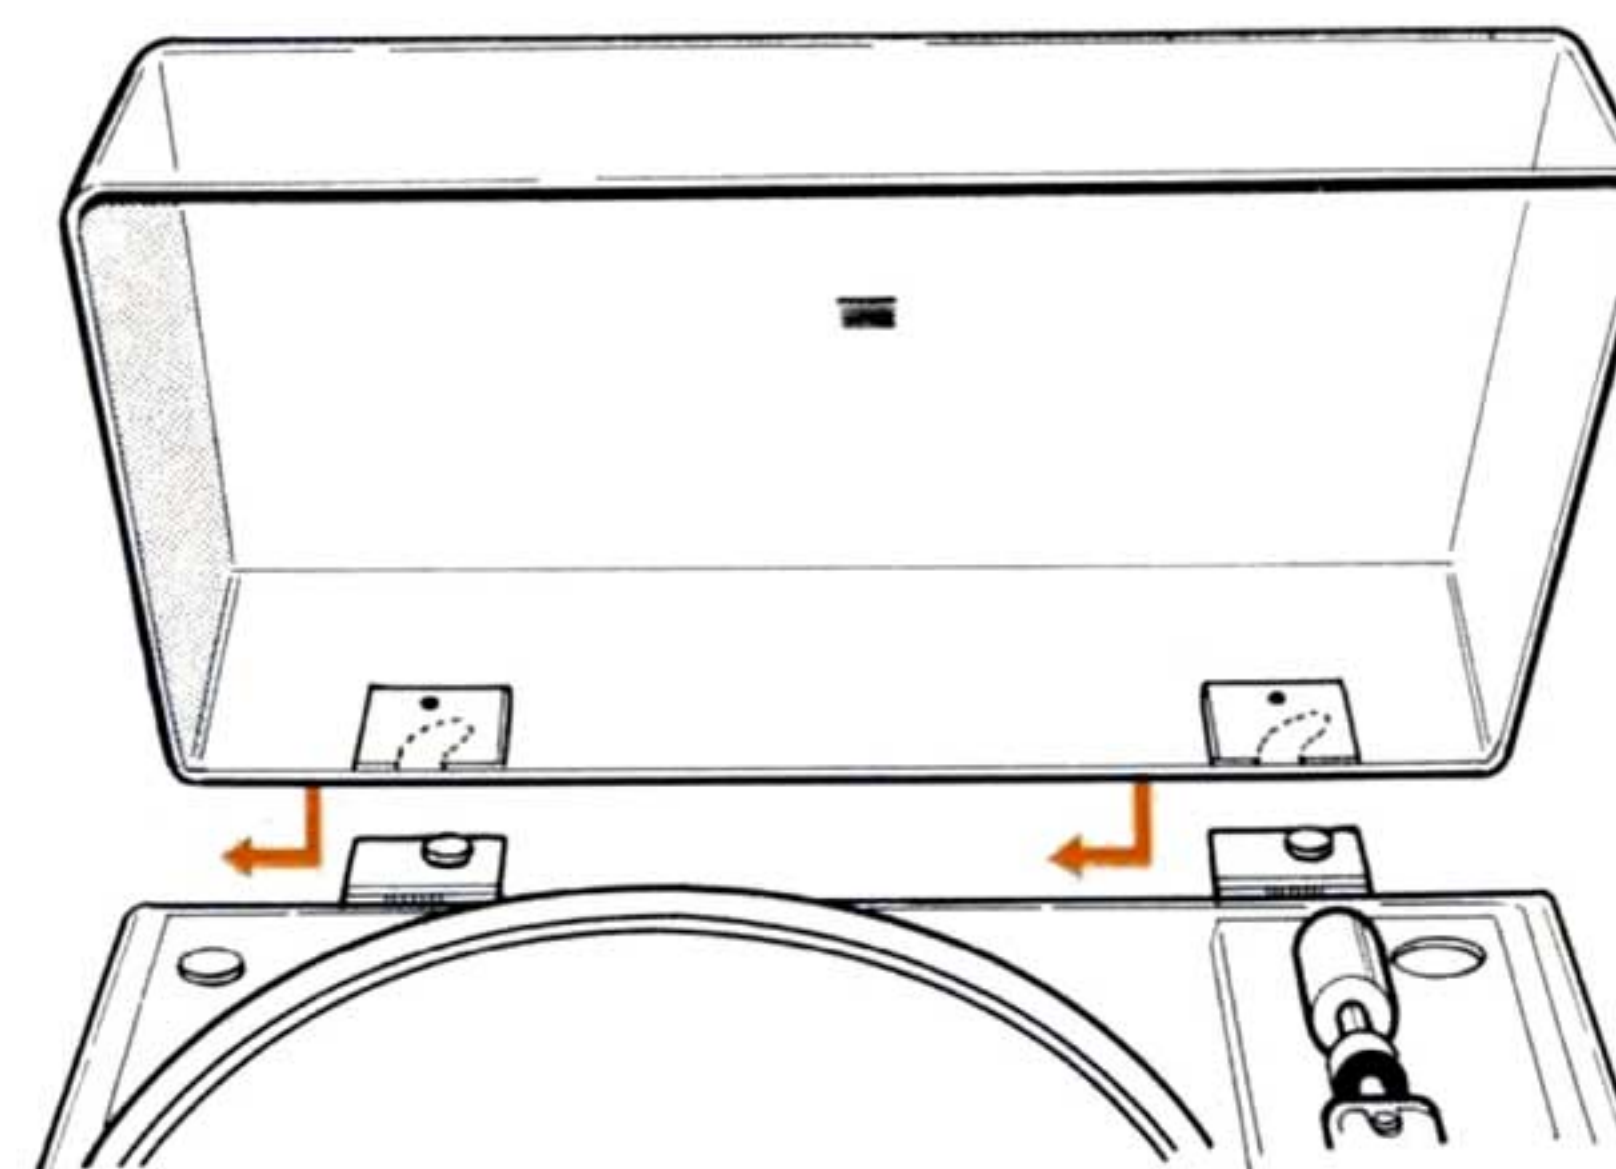

Figure7. How To Install The Cover
6. The player cover can be attached or removed easily according to your requirements. (See Figure 7).
4. The player cover can be attached or removed easily according to your requirements. See Figure 7.